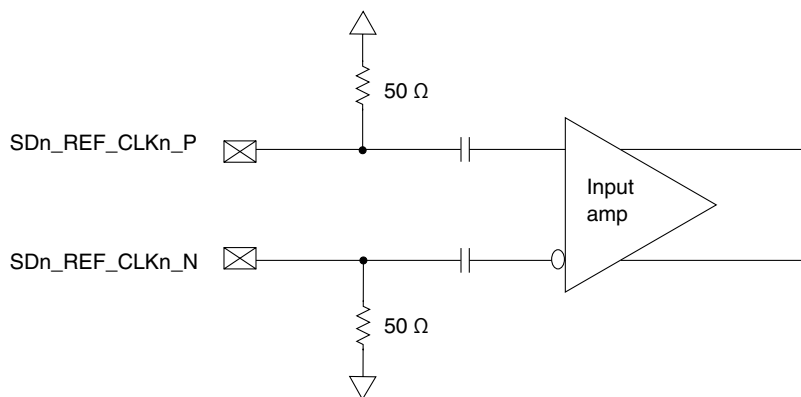

Figure 30. Receiver of SerDes reference clocks
- The $SDn_REF_CLKn_P$ and $SDn_REF_CLKn_N$ are internally AC-coupled differential inputs as shown in Figure 30. Each differential clock input ($SDn_REF_CLKn_P$ or $SDn_REF_CLKn_N$) has on-chip 50- Ω termination to $SGNDn$ followed by on-chip AC-coupling.